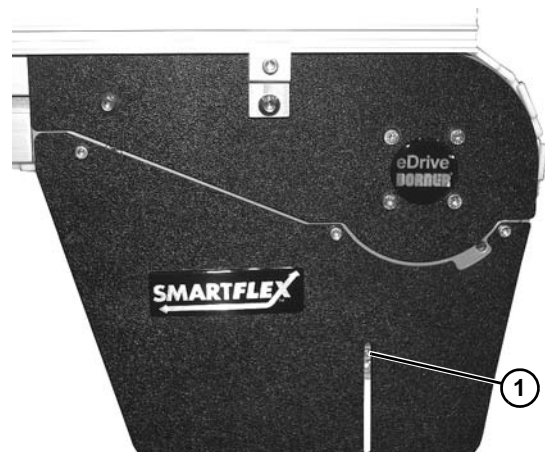

Figure 167
Before inserting belt rod to connect belt ends, be certain that the slack on belt is showing in slotted area (**Figure 167, item 1**) on convey or drive end.